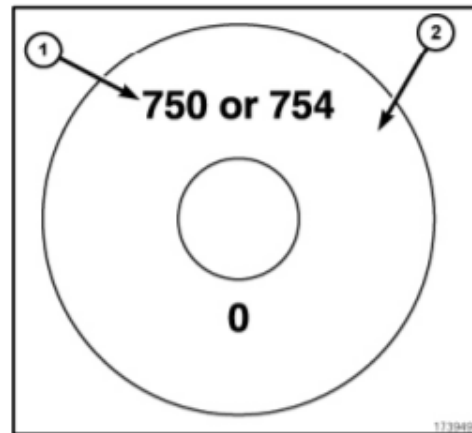

Figure 21 – HPFP Shaft End Markings (Example)
- a) Locate the end of the fuel injection pump shaft (2). Two numbers (750 or 754 and 0 in this example, actual number will vary) are stamped into the end of the shaft (Figure 21).